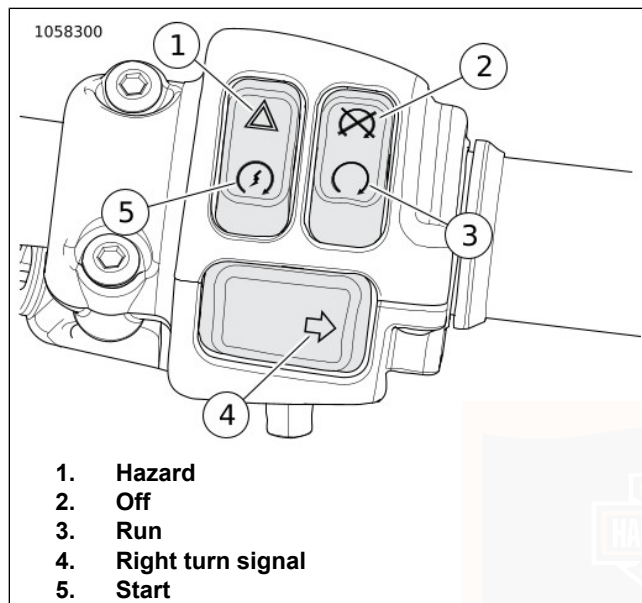

Figure 31. Right Hand Control Switches
See Figure 31. The hazard switch (1) is used to leave a stranded motorcycle in the 4-way flashing mode. With the flashers, the motorcycle can be left with the ignition off until assistance is found. Refer to Table 34.
See Figure 31. The start switch (5) is on the right handlebar control module. Refer to Table 34.
1. Switch the OFF/RUN switch to the run position (3). Shift the transmission to neutral. The neutral (green) indicator illuminates. See OPERATION > STARTING THE ENGINE (Page 91).
2. Press the start switch (5) to operate the starter motor.
See Figure 31. Press the engine OFF/RUN switch to off (2) to shut off the engine. Refer to Table 34.
See Figure 31. Push the engine OFF/RUN switch to run (3) to enable engine start and run. The engine OFF/RUN switch must be in the run position to start or operate the engine. Refer to Table 34.
See Figure 31. Press the right turn signal switch (4) to activate the right turn signal. Refer to Table 34.